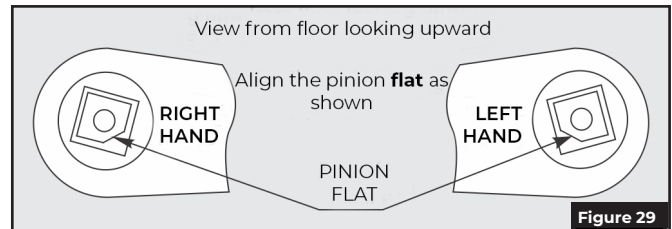

Figure 29
**NOTE:** Pinion flat should be aligned as shown. (Figure 29)